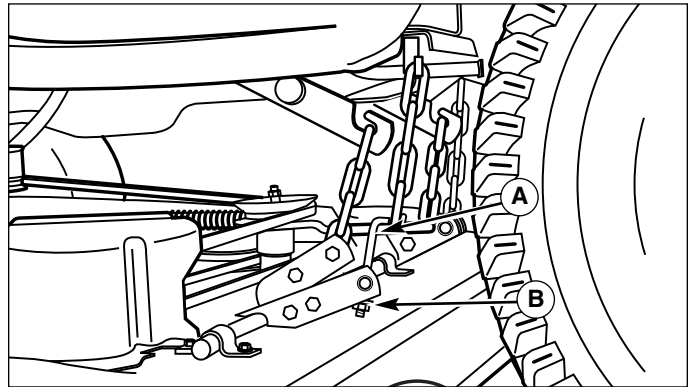

Figure 51. Leveling The Mower Side-to-Side, J-Hook Models
5. See Figure 51. Hold J-Hook (A) turn locknut (B). Turn the locknut (B) to raise or lower left-hand side of mower.